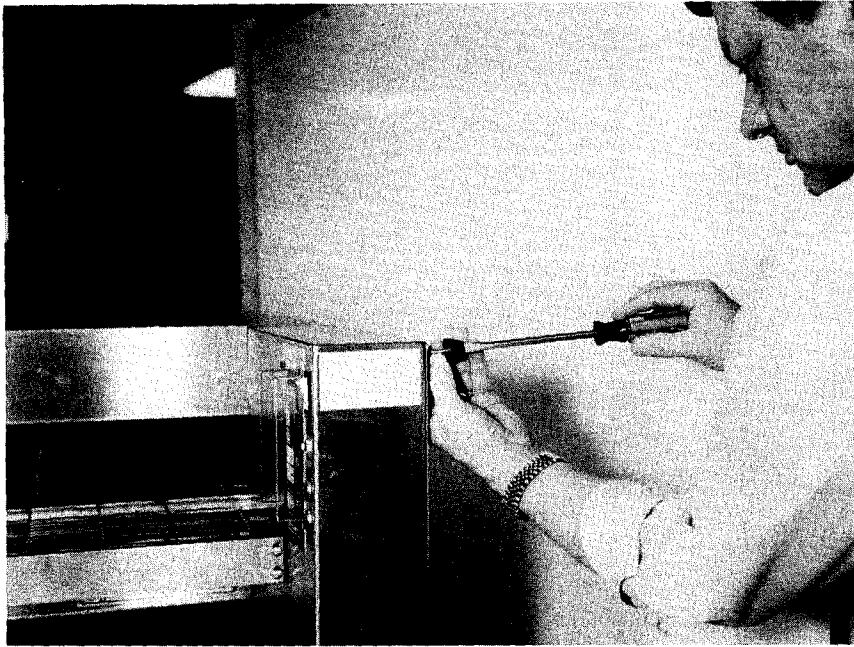

Figure 2-8
If the back side of the oven will be against a wall the four (4) standoffs supplied in the installation kit must be mounted to the rear panel of oven. To install the standoffs remove one rear panel screw at a time and replace with a standoff as shown in Figure 2-8.